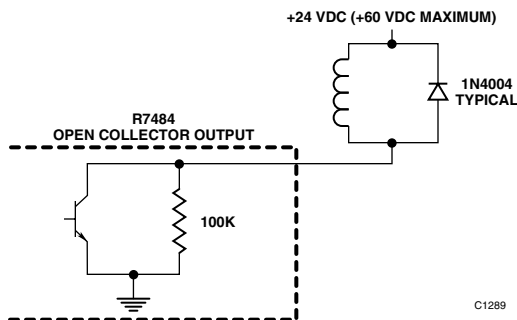

Figure 15—Open Collector Output with Inductive Load and Transient Suppression Device
BASE CONTROLLER – Connections to open collector transistor outputs are made at terminals 10, 12, 14, and 16. Terminals 9, 11, 13, and 15 are not used. See Figure 15 for an example of a typical connection to an open collector transistor output.
*External equipment that can generate transients when switching (such as relays) **must have a transient suppression device (diode)** properly connected across the coil at the time of installation. This will safeguard the output transistors of the controller against possible damage. Figure 15 illustrates an inductive load with a diode used for transient suppression.*